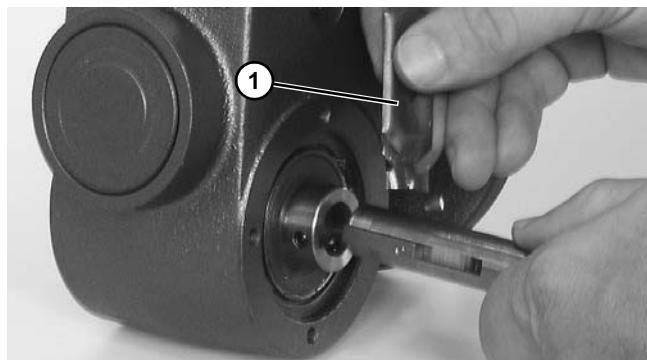

Figure 27
2. Apply anti-seize (Figure 27, item 1) to shaft.